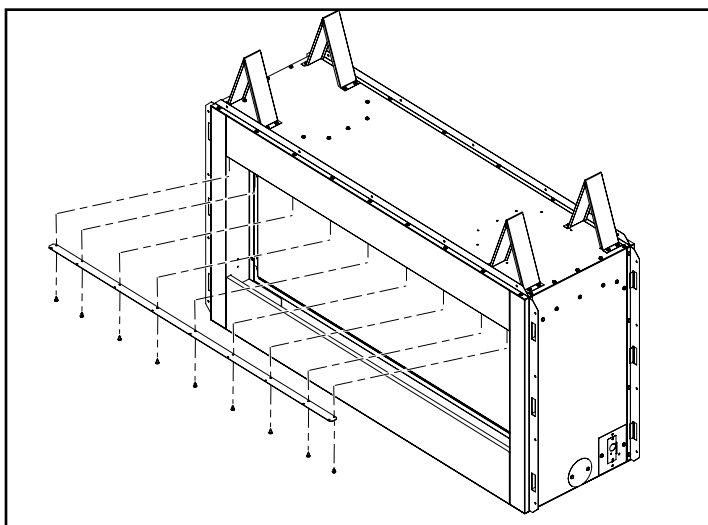

Figure 39 - Removing Mount Bracket for See-Thru Applications
2. Unscrew mount bracket from top face as shown in Figure 39, **Page 29**. Discard mounting bracket and replace screws.